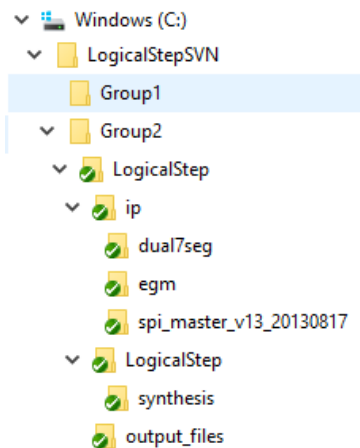

Figure 42: Directory tree of complete project folder
4. You will notice we have prefilled the repository with the file structure and empty files with the names you will be required to check-in at the end of the lab. Please ensure your directory tree now looks exactly like Figure 42. **Important** - if your tree is different than in the figure ask the lab staff for help.